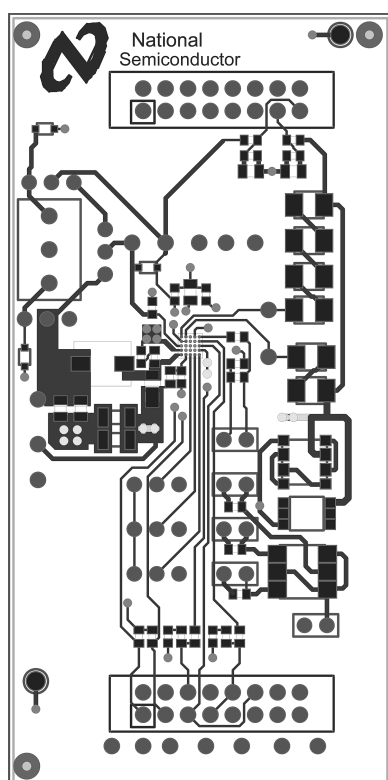

Figure 11. LP5526 Evaluation Board Layer 1
1. Top, component side (Figure 11)